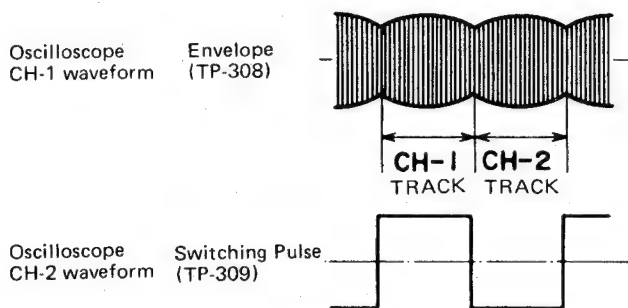

Figure 28
2. Trigger with a switching pulse and observe the envelope (Figure 28).